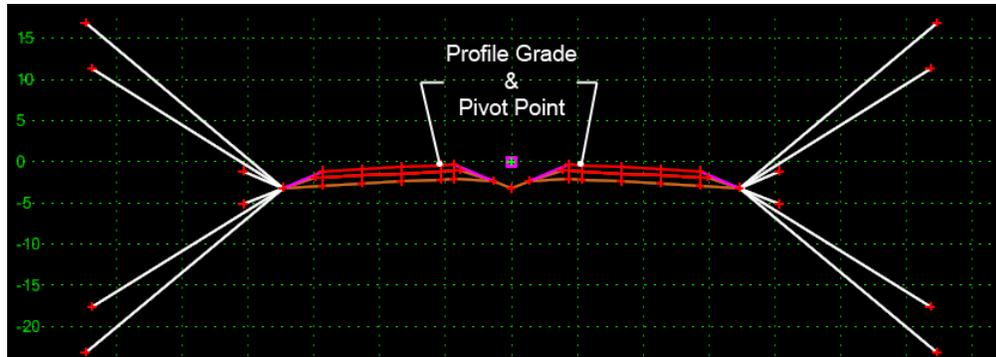

**Figure 3: End Conditions Detail**
**“Figure 3:End Conditions Detail”** on page 201 defines possible cut and fill solutions that tie the pavement section to the existing ground and are based on **Table 4-2 Fill Slopes** of the **2005 Roadway Design Guide**. This end condition includes:
- ◆ (3) fill slopes; 6 to 1, 4 to 1, and 3 to 1